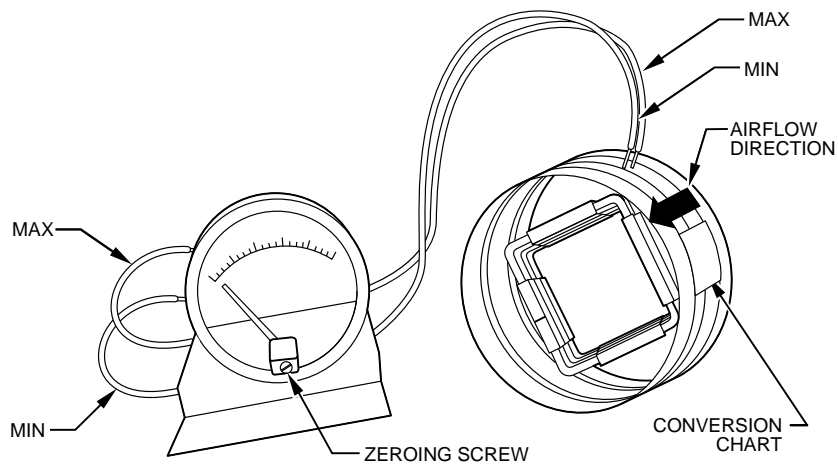

Fig 16—Magnehelic Gage
2. With the speed control at maximum speed and continuous air exchange with the outside occurring, connect the hoses from the flow collar to a magnehelic gage. (See Fig. 16.) The gage must be leveled and zeroed before use to read accurately. If the needle falls below zero, reverse the hose connections.